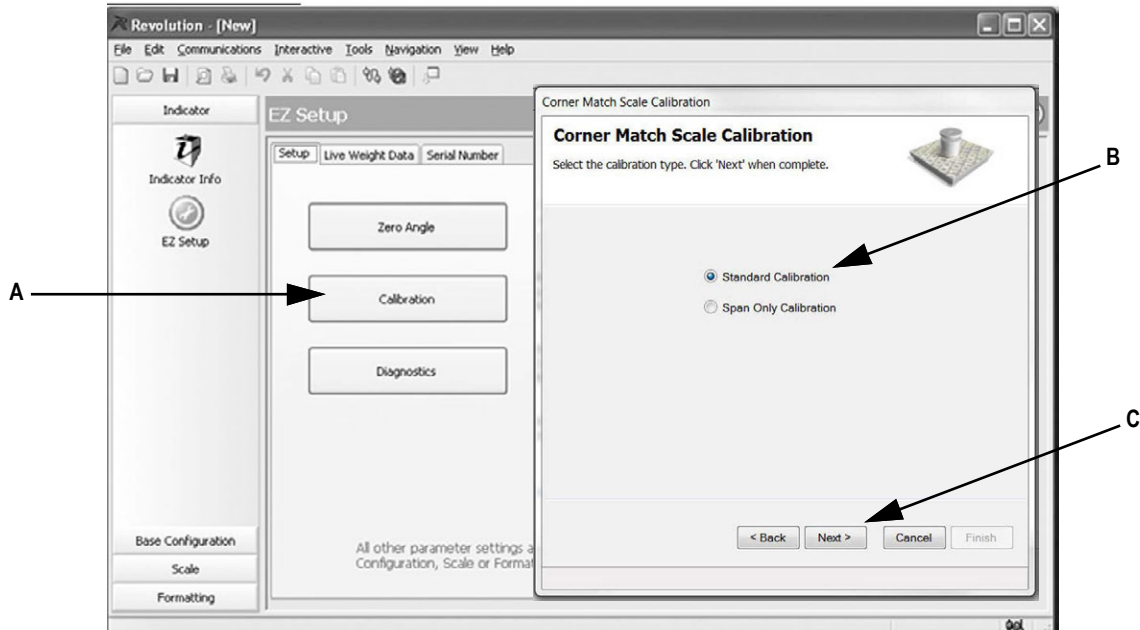

Figure 4-52. Enter Calibration
1. Select **Standard Calibration** (Figure 4-52 B)
2. Press **Next** (Figure 4-52 C).